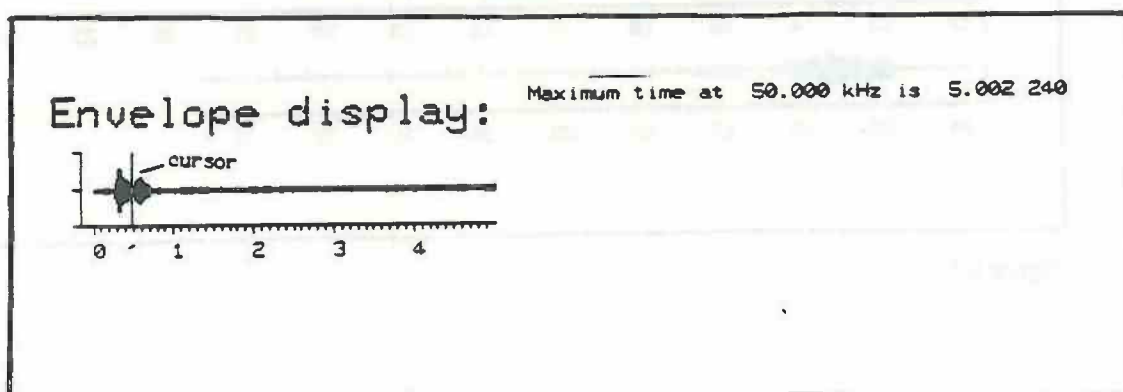
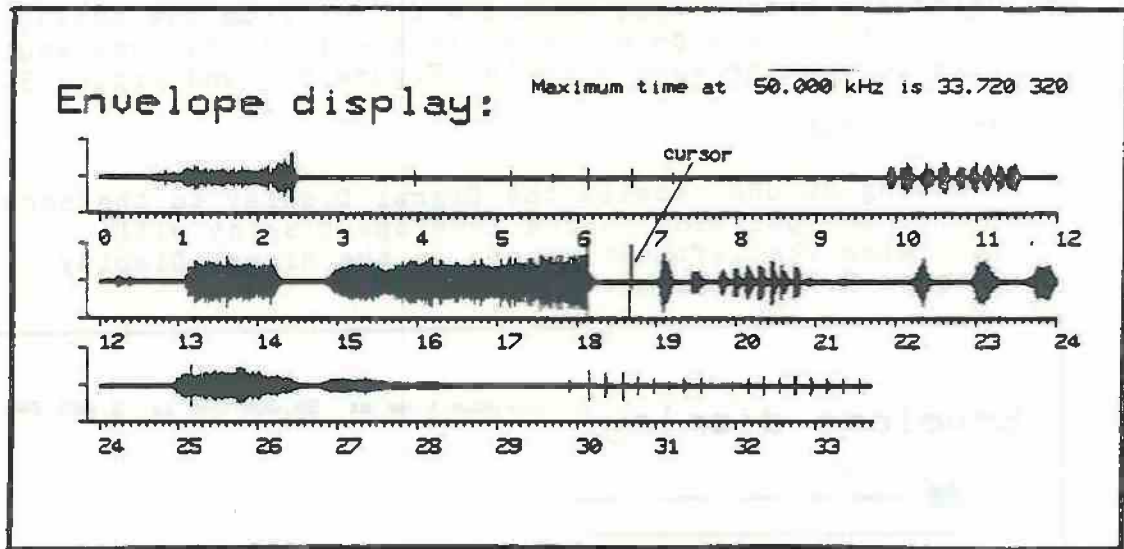

Figure 5.5
Figure 5.7
6. Using the arrow keys, move the cursor from the beginning of the file to a point later in the file that you would like to examine more closely (Figure 5.5 and Figure 5.7).